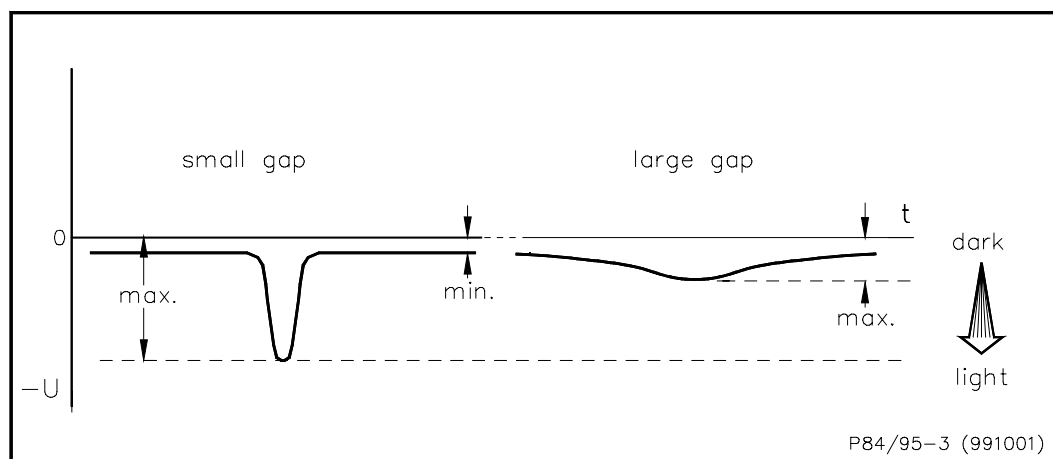

Fig. 3 Output signal as a function of distance
- ◆ The curve of the output signal depends on the width and the amount of reflection of the reference mark and its distance to the reference sensor (see Fig. 3).